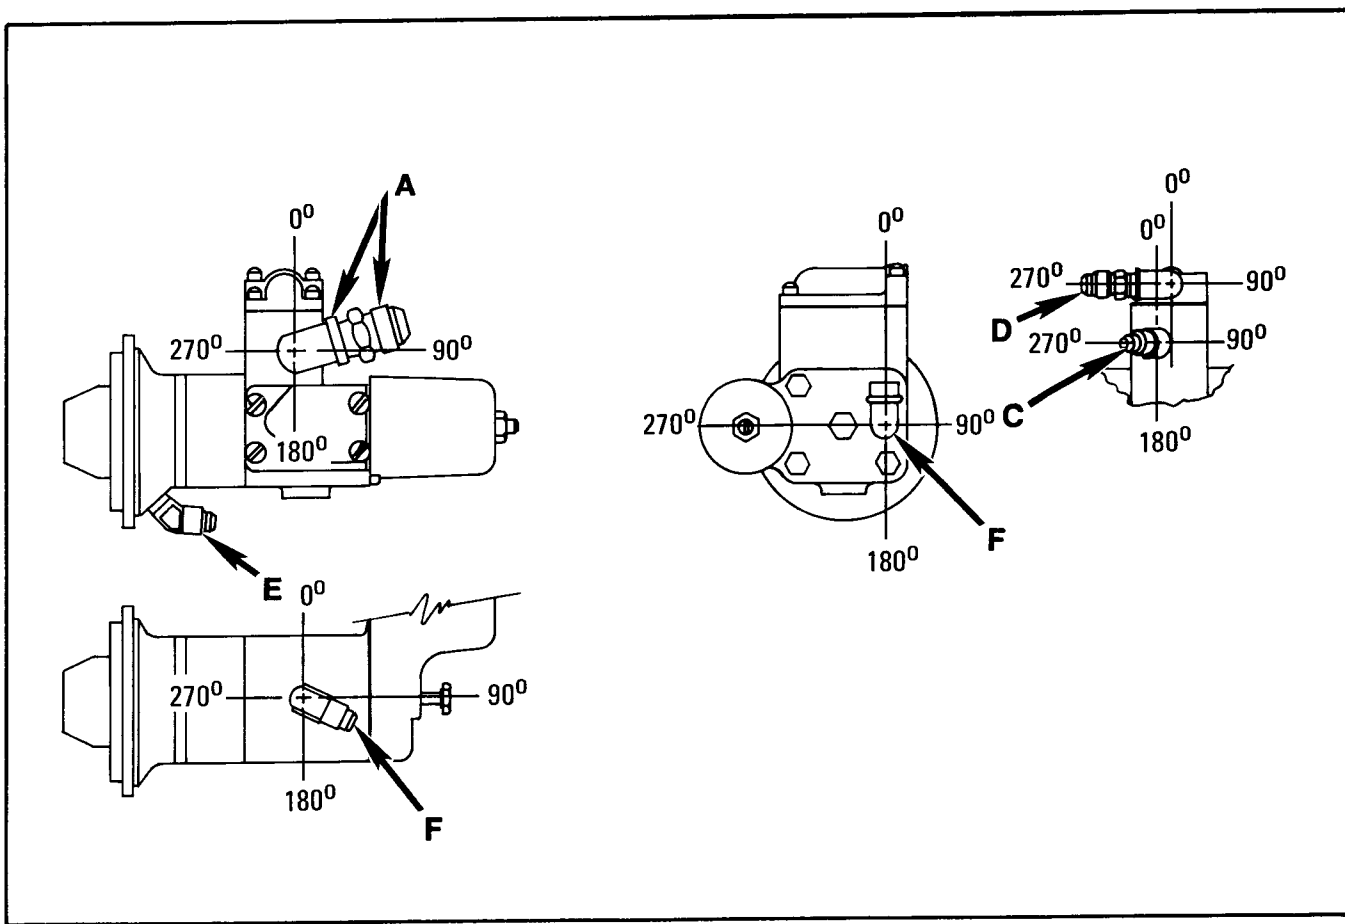

FIGURE 7-3. FUEL PUMP FITTING LOCATIONS.
- a. Install plugs and any necessary replacement connection fittings in proper ports of fuel injector components (See Figure 7-3 thru 7-7).